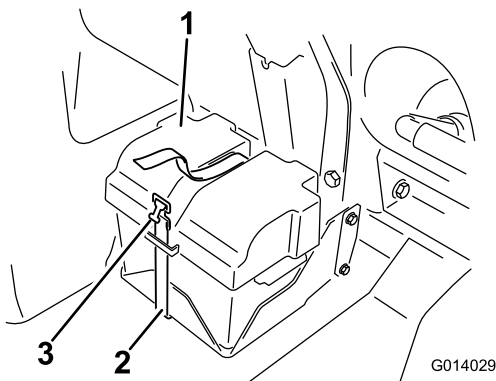

Figure 76
2. Remove the battery cover and disconnect the negative (black) ground cable from the battery post (Figure 76).
4. Install the battery cover and secure it with the strap removed previously (Figure 76).